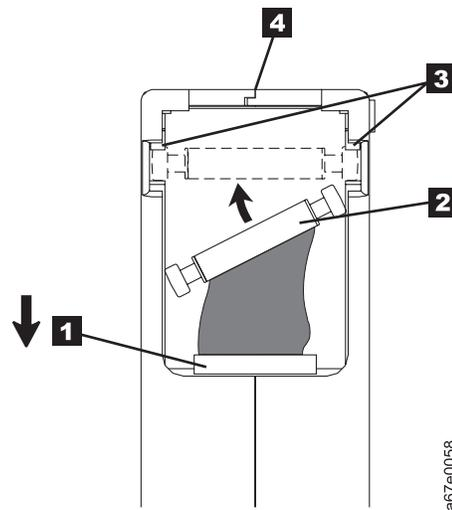

Figure 9. Placing the dislodged leader pin into the correct position. The cartridge door is open to show the leader pin.
- Inspect the rear of the cartridge (the part that you load first into the tape load compartment) and ensure that there are no gaps in the seam of the cartridge case (see **4** in Figure 9 on page 21). If there are gaps in the seam, the leader pin may be dislodged. Go to “Repositioning or reattaching a leader pin” on page 20.
1. Slide open the cartridge door (**1** in Figure 9) and locate the leader pin (**2**) (you may need to shake the cartridge gently to roll the pin toward the door).